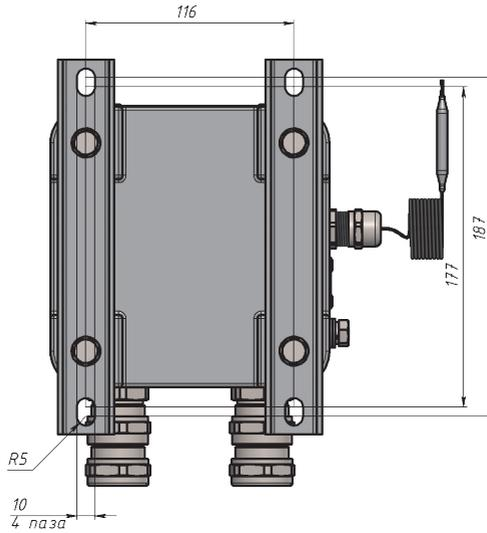

Figure 4.1 The thermostat mounting drawing
- 4.1 Install the thermostat enclosure on the predefined vertical surface taking into account overall and mounting dimensions (the installation drawing is provided in Figure 4.1)